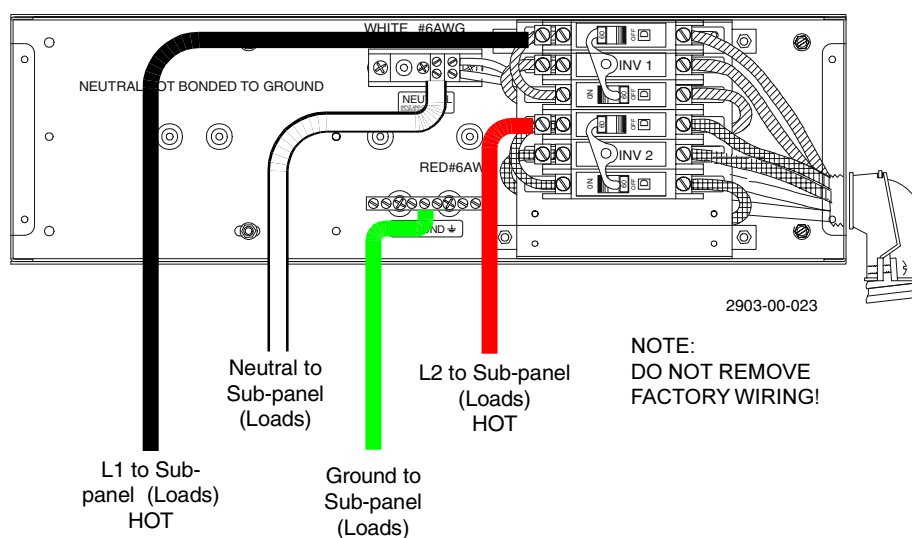

Figure 21
- Connect the L1 (Hot-black) wire to the INVERTER 1 HOT OUT L1 (top ac breaker) as indicated in Figure 21.
- Connect the L2 (Hot-red) wire to the INVERTER 2 HOT OUT L2 (top ac breaker) as indicated in Figure 21.